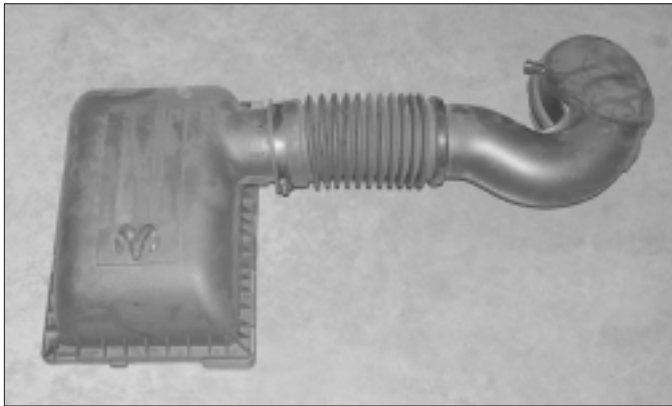

Fig. 2-a
- B. Using an 8mm socket or flat blade screw driver loosen the clamps from the Rubber flex hose between the air box and the throttle body. Remove the cover and the flex hose and set aside. (See *Fig. 2-a.*)